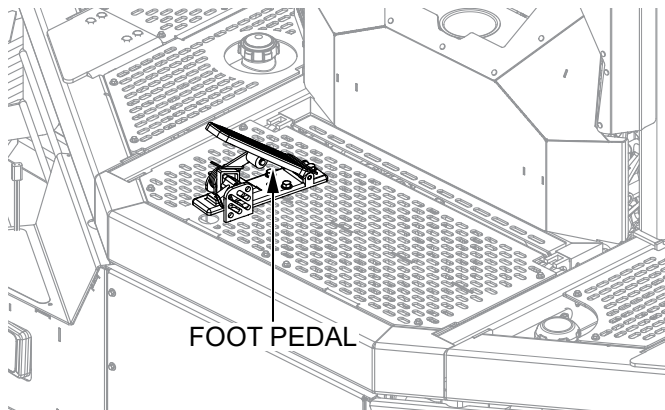

Figure 42. Foot Pedal
2. Depress the **foot pedal** (Figure 42) to raise the rotor speed to the set speed.